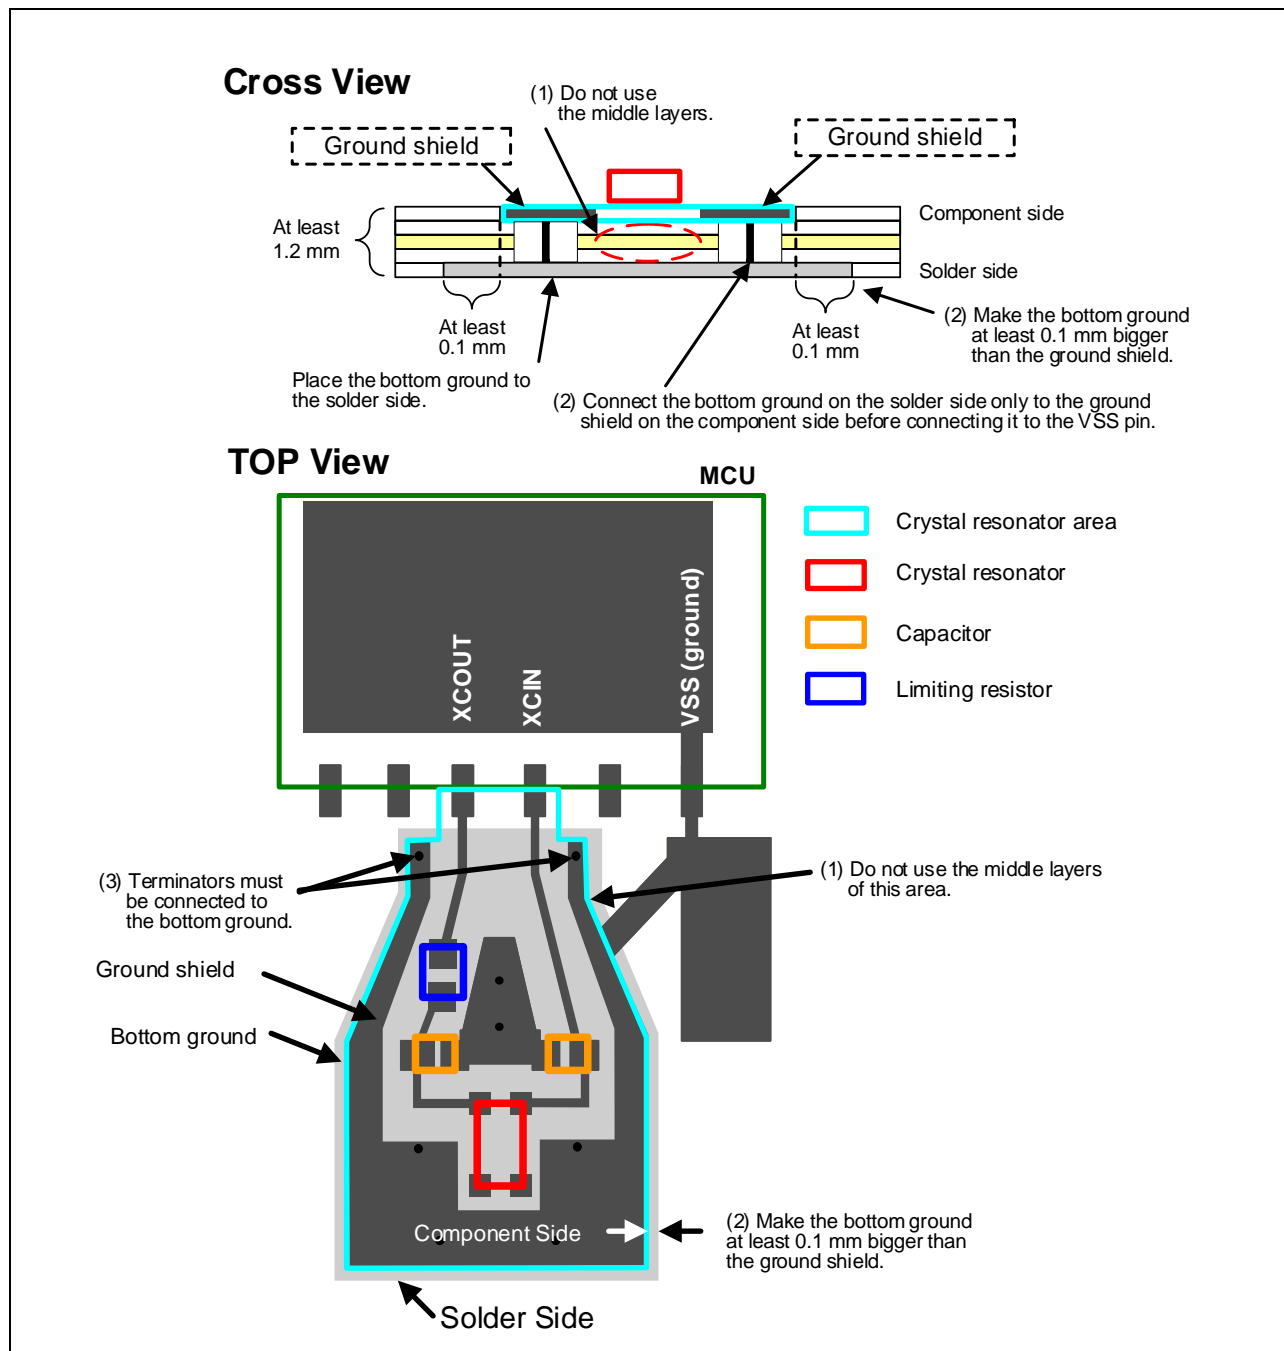

Figure 3.9 Trace Example When a Multilayered Board is at Least 1.2 mm Thick
For boards that are at least 1.2 mm thick, lay out a ground trace on the solder side (hereinafter referred to as bottom ground) of the crystal resonator area (see Figure 3.9).
(1) through (3) describe points when making a multilayered board that is at least 1.2 mm thick, and Figure 3.9 shows a trace example.